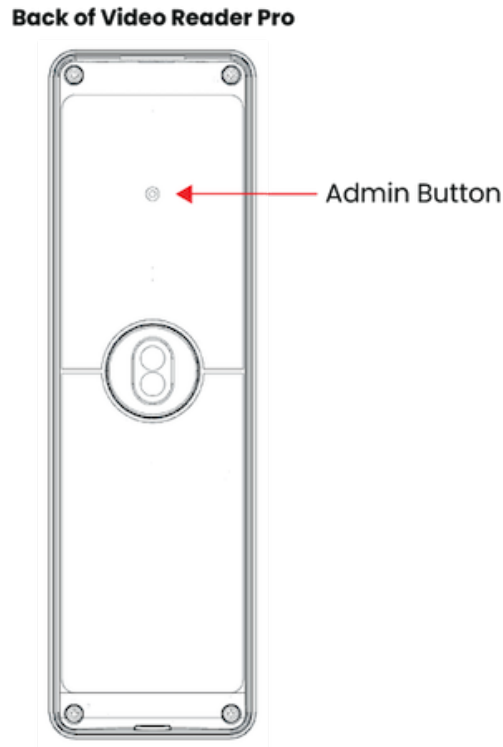

Figure 11 Video Reader Pro Admin button
- Press Admin button (Figure 11 on the next page) on back of Video Reader Pro.
3. Press Admin button (Figure 11 below) on back of Video Reader Pro.